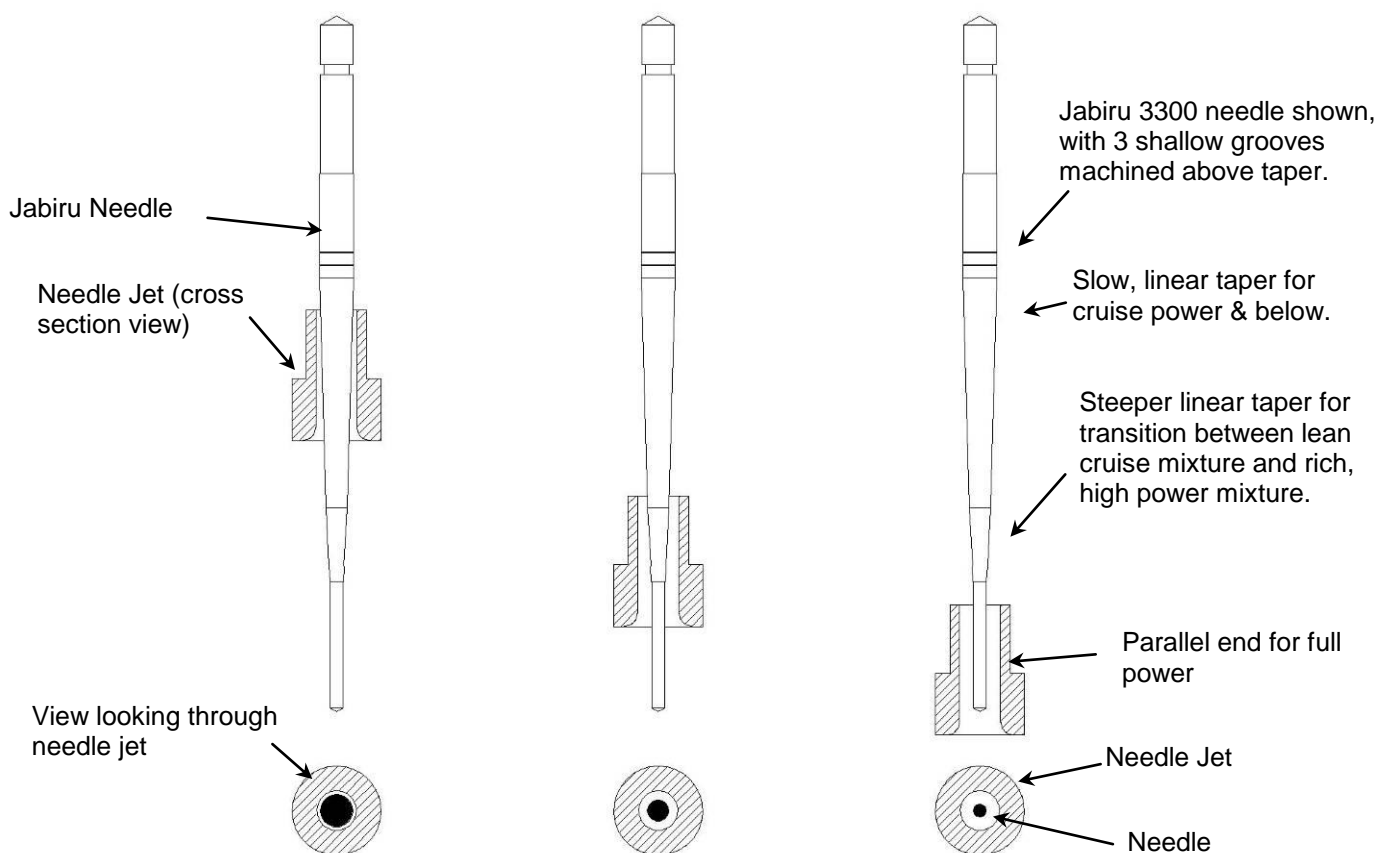

Figure 34. Needle Jet (Jabiru Needle)
- The main and idle jets have simple fixed apertures, while the effective size of the needle jet aperture varies, depending on the diameter of the needle. Figure 34 below shows three different throttle settings in the needle jet and the corresponding difference in aperture. On the left is a low power setting, where the needle jet is nearly completely blocked by the needle. The middle throttle setting corresponds approximately to a high cruise power setting. The gap between the needle and the sides of the jet is much larger. The final setting corresponds approximately to wide open throttle. The needle jet is now effectively not there, and the amount of fuel flowing is controlled by the main jet (located upstream of the needle jet in this circuit).